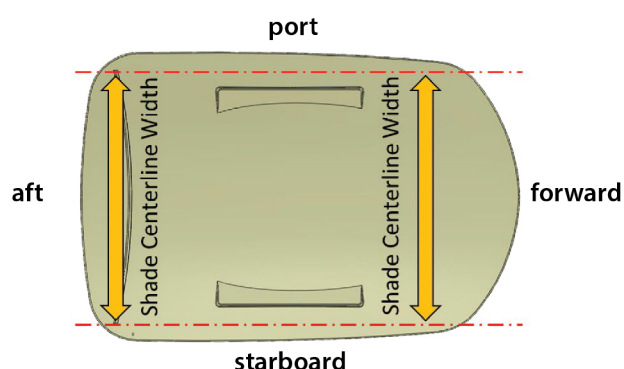

Fig.4
4. To verify centerline measurements, measure the distance from the port side to the starboard side at the forward and aft sections (**Fig.4**) to make sure marks are parallel. These measurements should be the same as the shade centerline width provided on the shade specification drawing.